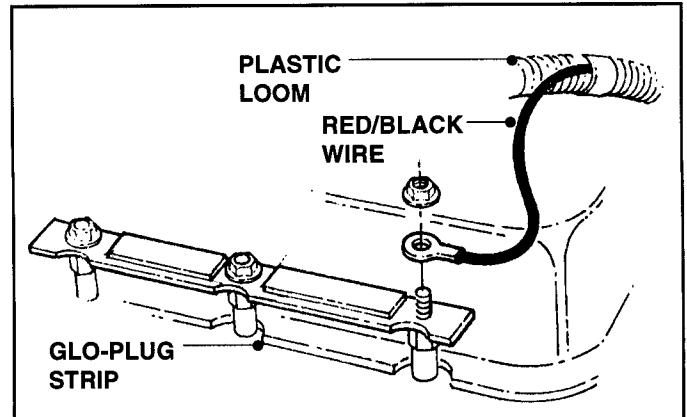

FIGURE 5.9
3. Disconnect the three (3) Wires from the Starter Solenoid (L.H. Side).
5. Separate the Wire Loom (close to the Alternator) and find the two (2) Spade Connections to the Alternator. Disconnect.
6. Separate the Plastic Loom attached to the Radiator Support and disconnect the three (3) Spade Connections to the Solenoid mounted on the R.H. Side of Engine.
7. Remove Red/Black Wire from GLO-PLUG STRIP. See Figure 5.9.